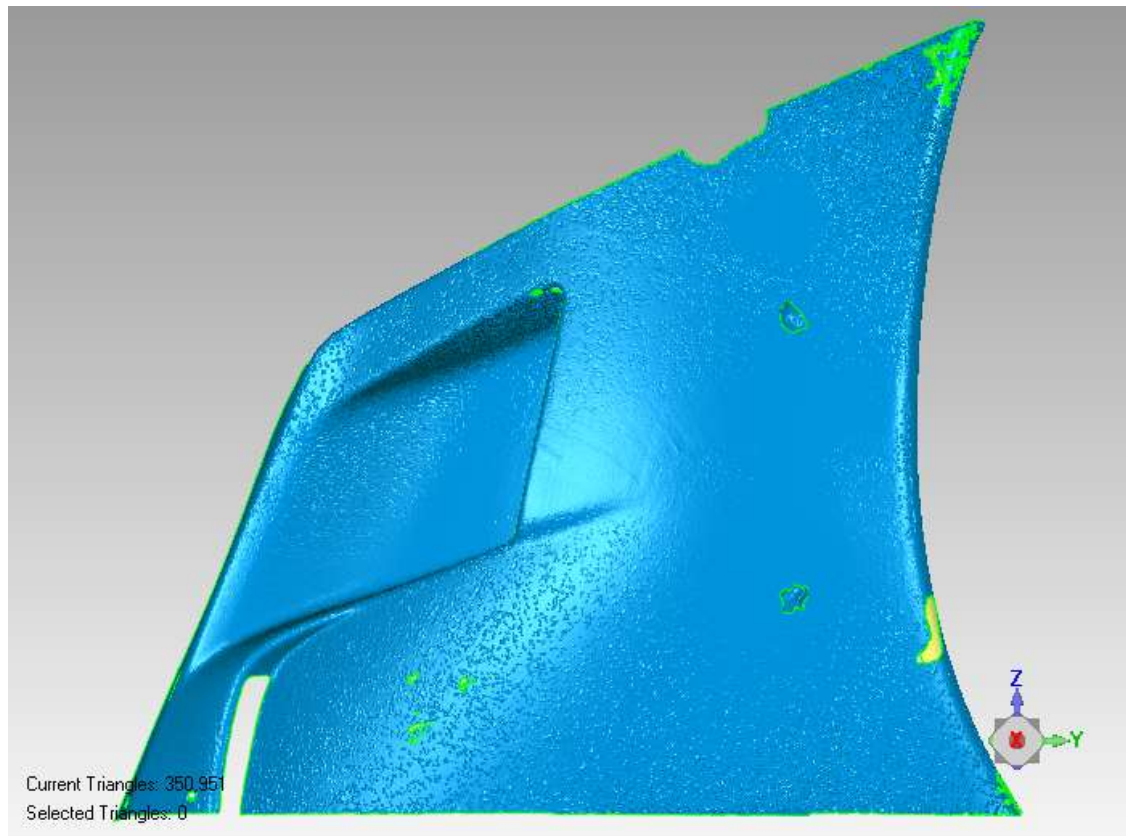

Figure 77
- Select **Fit Model to View** on the **Right-Side Toolbar**, see **Figure 77**.